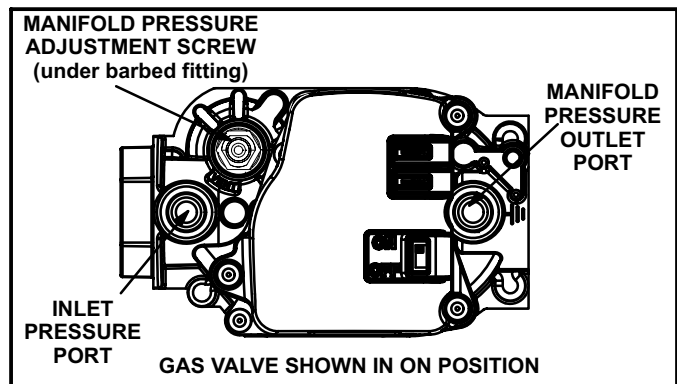

FIGURE 55
Gas Valve Operation (Figure 55)
- 6 - Move gas valve switch to **OFF**. See figure 55.
- 8 - Move gas valve switch to **ON**. See figure 55.